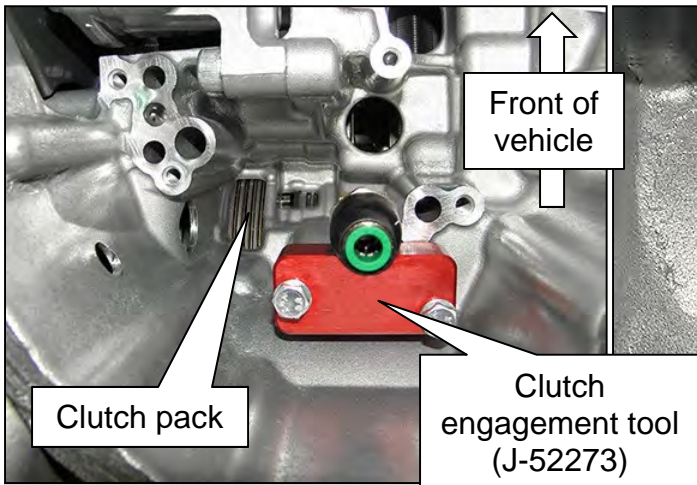
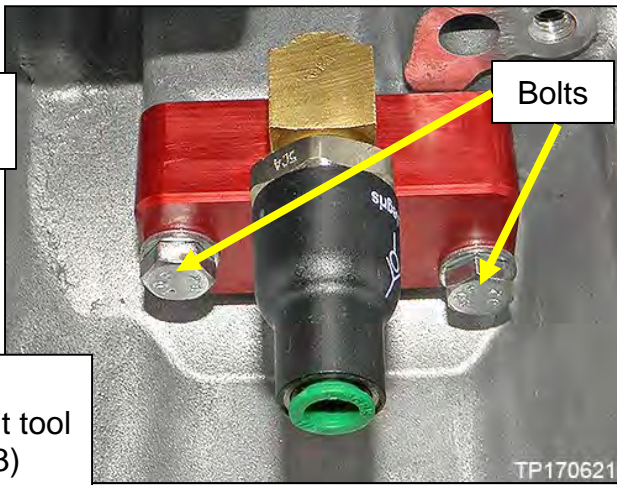

Figure 29
Figure 30
- a. Install the Clutch Engagement Tool (J-52273) to the CVT case with two bolts, finger tight, where shown in Figure 29 and Figure 30.